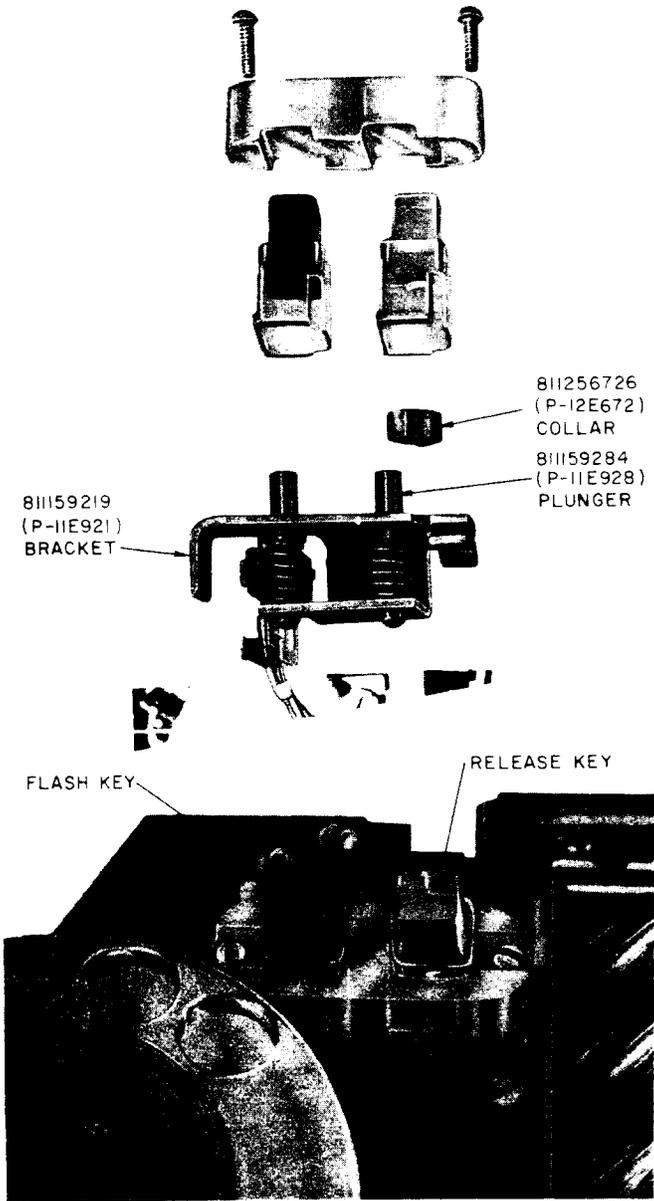

Fig. 31—811159872 (P-11E987) Switch Assembly
- (1) Remove faceplate assembly.
- (2) Remove two switch assembly screws (Fig. 31).
- (3) Remove button assembly.
- (4) Place 811256726 (P-12E672) collar around 811159284 (P-11E928) plunger (Fig. 31).
- (5) Reassemble switch assembly.